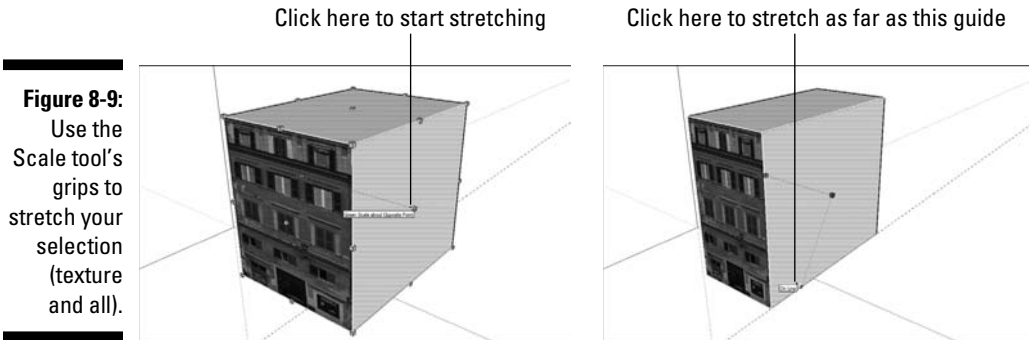

Figure 8-9:
4. Scale your selection to be the right size (see Figure 8-9).